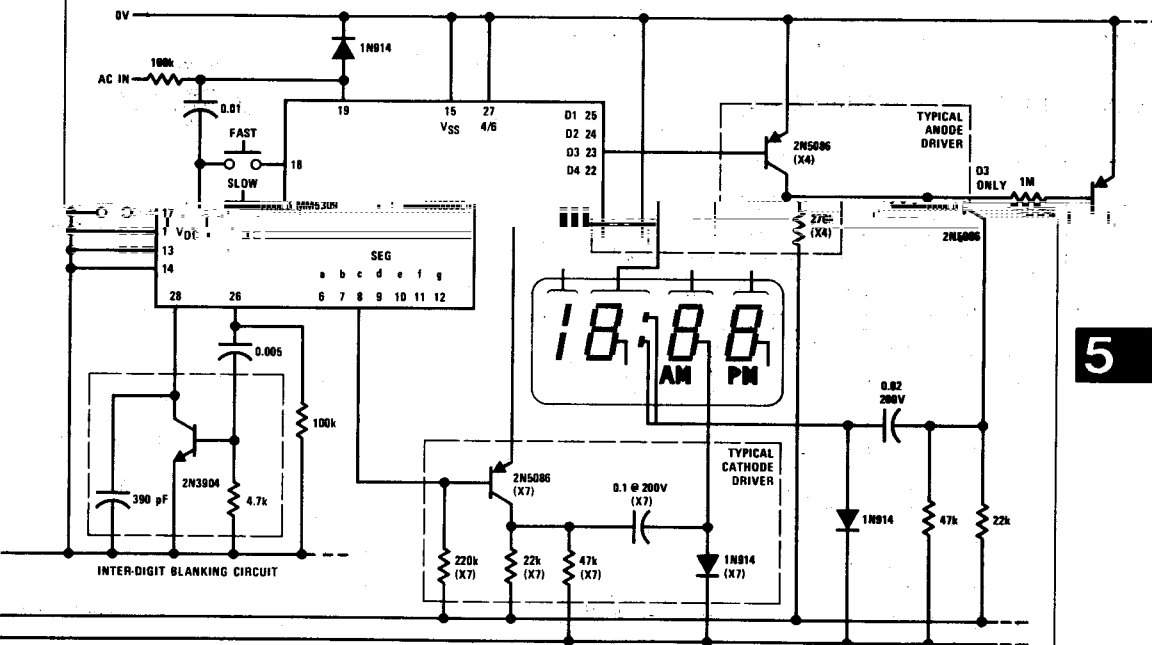

FIGURE 10. MM5309 Driving Gas Discharge Display, Typical Applications
**50 or 60 Hz Input:** This input is applied to a Schmitt Trigger shaping circuit which provides approximately 5V of hysteresis and allows using a filtered sinewave input. A simple RC filter such as shown in *Figure 10* should be used to remove possible line voltage transients that could either cause the clock to gain time or damage the device. The shaper output drives a counter chain which performs the timekeeping function.